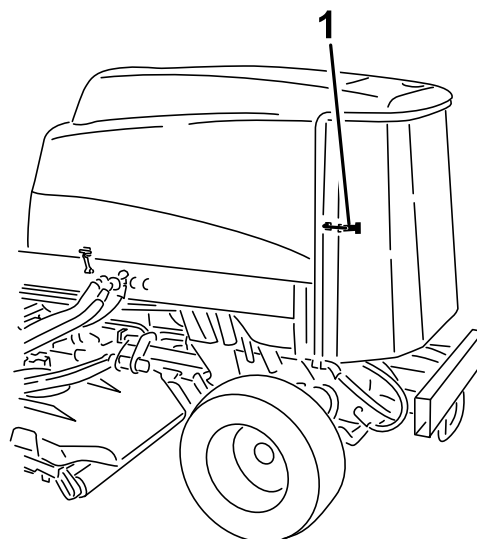

Figure 64
1. Unlatch and swing open the rear screen (Figure 64).